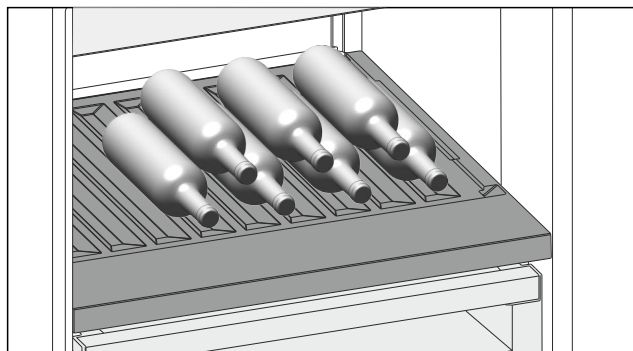

Fig. 143
- Place bottles in the back row with their bases against the back wall. (see Fig. 143)